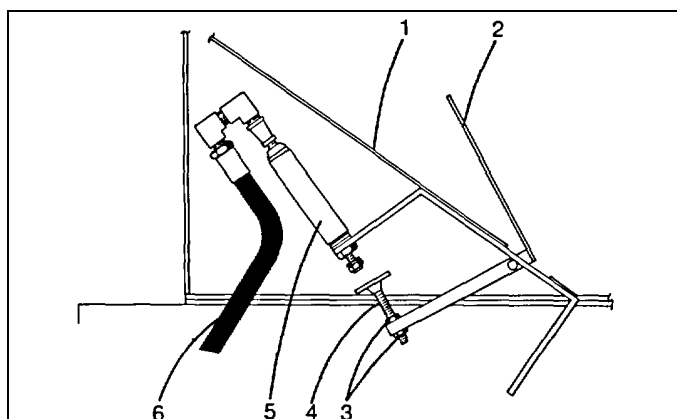

Fig. 3-13
The outrigger throttle control is actuated by a button on the outrigger control panels and the toggle switch at the front bumper outrigger control station. They actuate a solenoid valve in the carrier air brake system which admits air under pressure to the cylinder (5) in Fig. 3-13. The cylinder depresses the accelerator pedal in the carrier cab to increase the engine speed and provide faster outrigger operation.